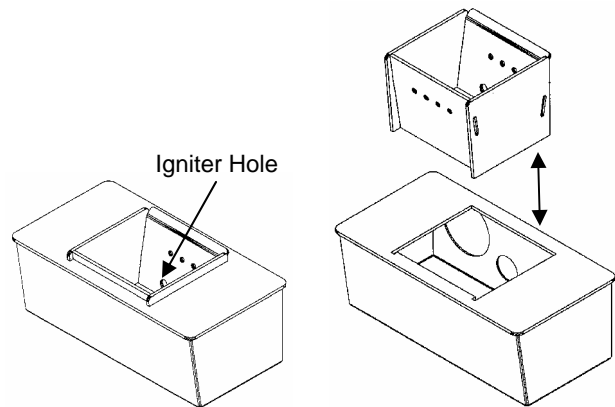

FIGURE 16
- Remove the burnpots inner section by grasping it and pulling straight up (see Figure 16).
- Replace inner section into burnpot; make sure it is level and pushed all the way back down and that the igniter hole is to the rear when it is reinstalled (see Figure 16).
- Open door and remove the optional imitation log set, if in use. Remove the burnpots inner section by grasping it and pulling straight up (see Figure 16).